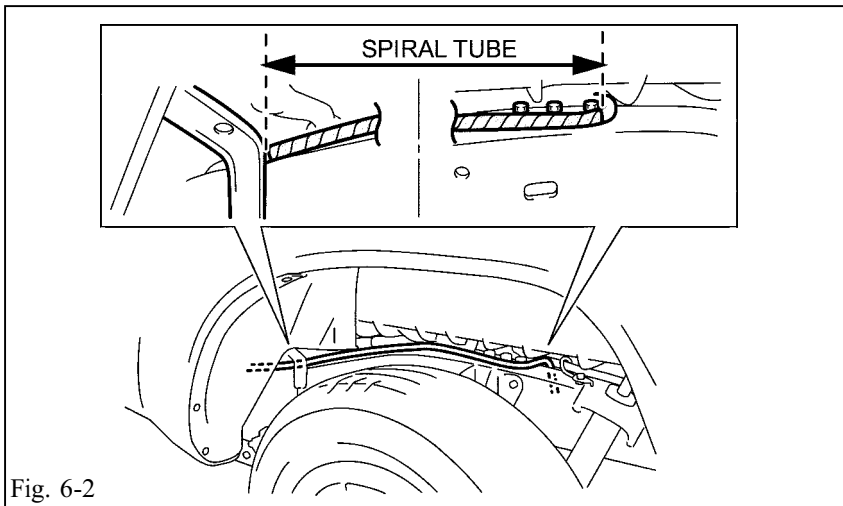

Fig. 6-2
- (1) Route the wire harness spiral tube to the position in the figure. (Fig. 6-2)